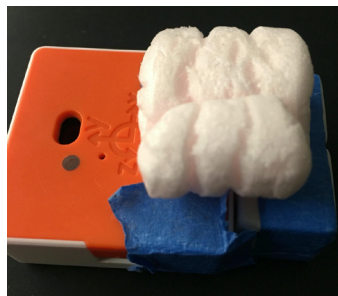

Figure 5 - Packing peanut attached to sensor
- h. In its role as the pedestrian in your simulated collisions, the car will strike the sensor when released. To help the sensor more accurately measure the impact of the crash on the Pedestrian Crash Test Dummy, tape one packing peanut along with the paper Pedestrian Crash Test Dummy outline against the lower front of the sensor as shown in Figures 5 and 6.